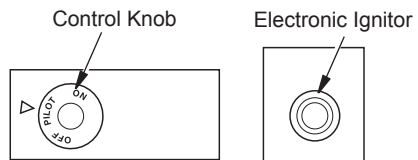

Figure 26 - Control Knob and Ignitor Button Location (Shown as Supplied - No Control Options)
3. Press in and turn control knob clockwise  to the OFF position (see Figure 26).
4. Wait five (5) minutes to clear out any gas. Then smell for gas, including near the floor. If you smell gas, STOP! Follow "B" in the safety information, page 20. If you don't smell gas, go to the next step.
5. Press in and turn control knob counterclockwise ↶ to the PILOT position. Press in control knob for five (5) seconds (see Figure 26, page 20).